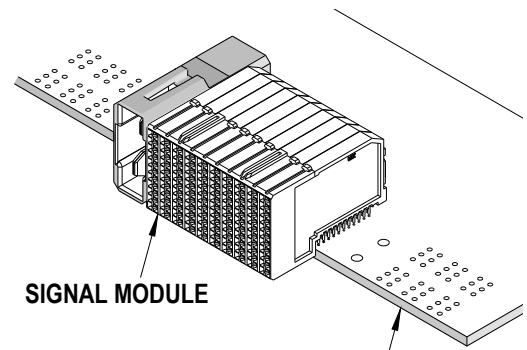

Figure 2-9
2. Pre-seat the assembly into the board by hand. Check for proper seating, without contact pins bending under the assembly after pre loading on to the Printed circuit board. See Figure 2-9.